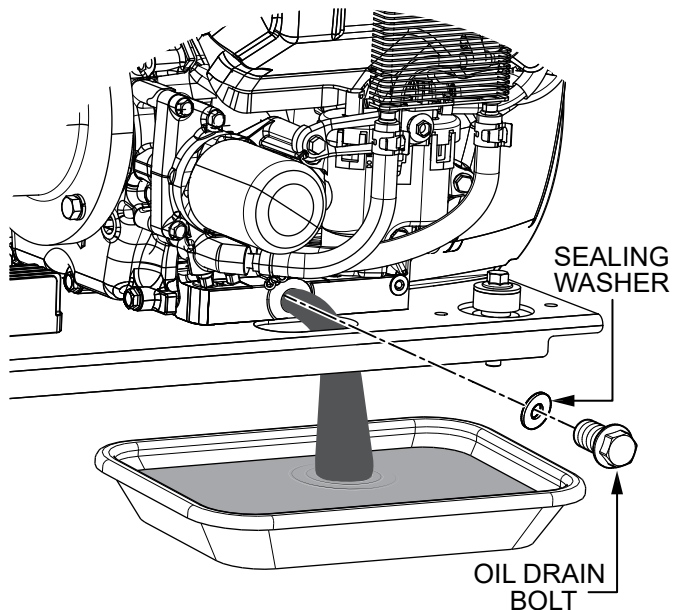

Figure 33. Draining The Engine Oil
2. Remove the **oil drain bolt and sealing washer** (Figure 33). Allow the oil to drain into a suitable container.